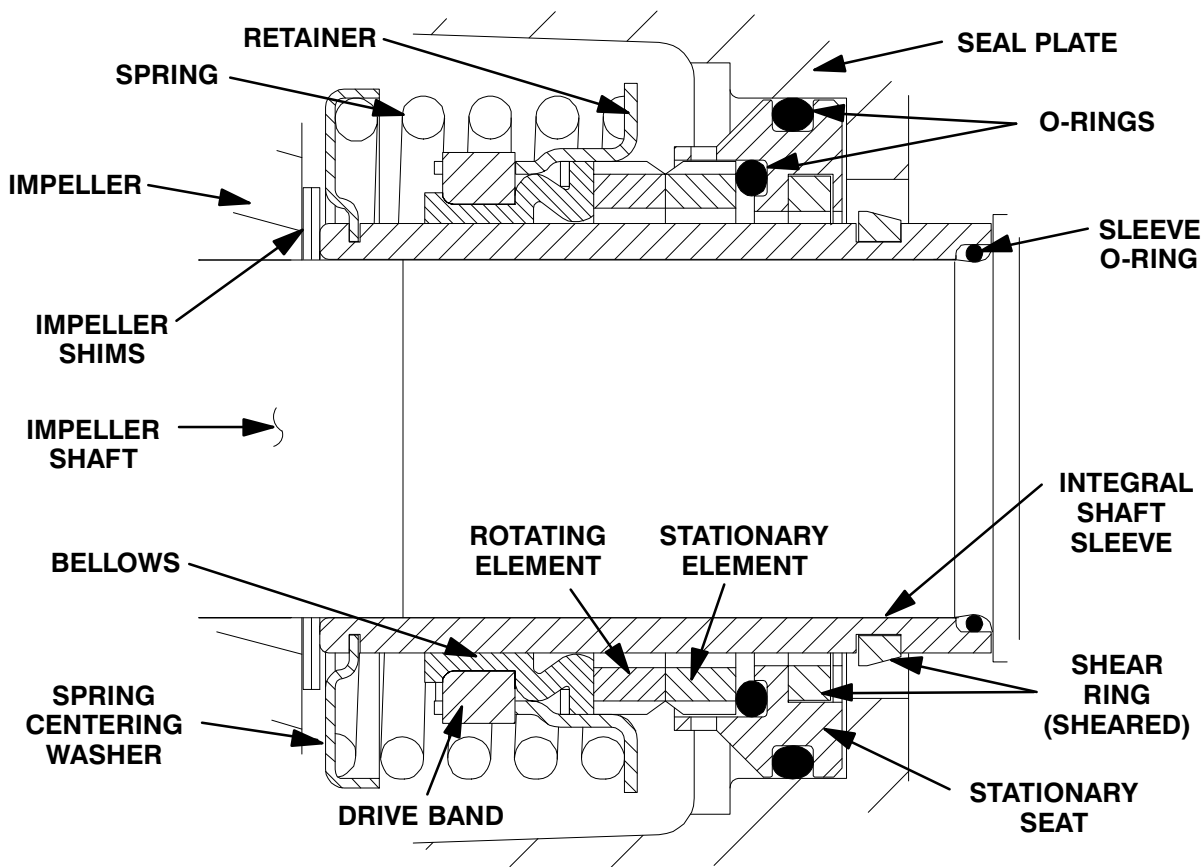

Figure 9. Cartridge Seal Assembly
To ease installation of the seal, lubricate the shaft sleeve O-ring (25) and the external stationary seat O-ring with a very **small** amount of light lubricating oil. See Figure 9 for seal part identification.